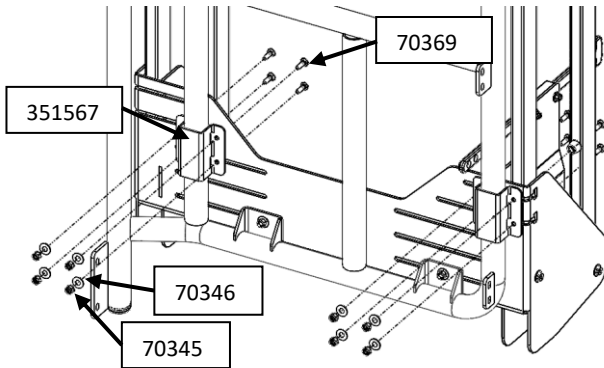
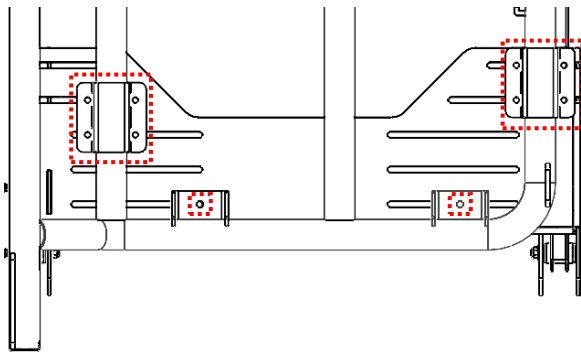

Figure 5: Lower Tray Installation Bracket Bolts
Figure 6: Lower Mounting Locations
5. Once aligned, tighten the 2 bolts installed in step 3 then use 2x Medium Mounting Brackets (351567), 8x 5/16" Carriage bolts (70369), 8x 5/16" washers (70345), and 8x Nylock nuts (70346) to secure the Power Lift lower assembly to the Base Unit. Route the Carriage bolts through the slots in the lower tray using the side cutouts. Assemble as shown in Figure 5 & Figure 6. Note the orientation of the bolts MUST be installed exactly as shown.